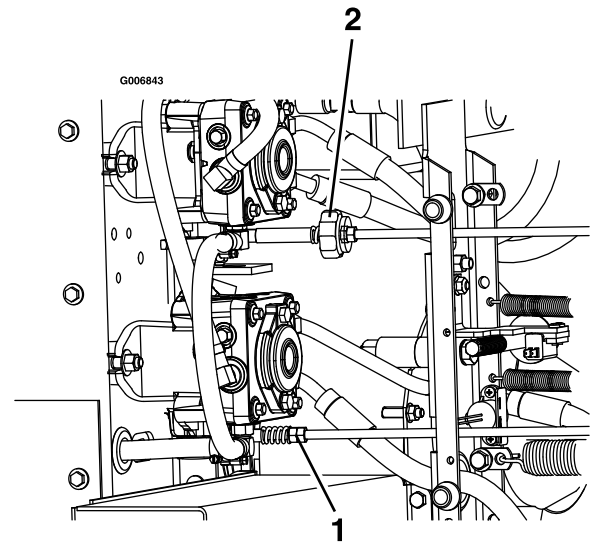

Figure 66
until the wheels stop or creep slightly in reverse (Figure 66).
11. Adjust the right pump linkage by using a wrench to turn the double nuts on the assembly (Figure 66).